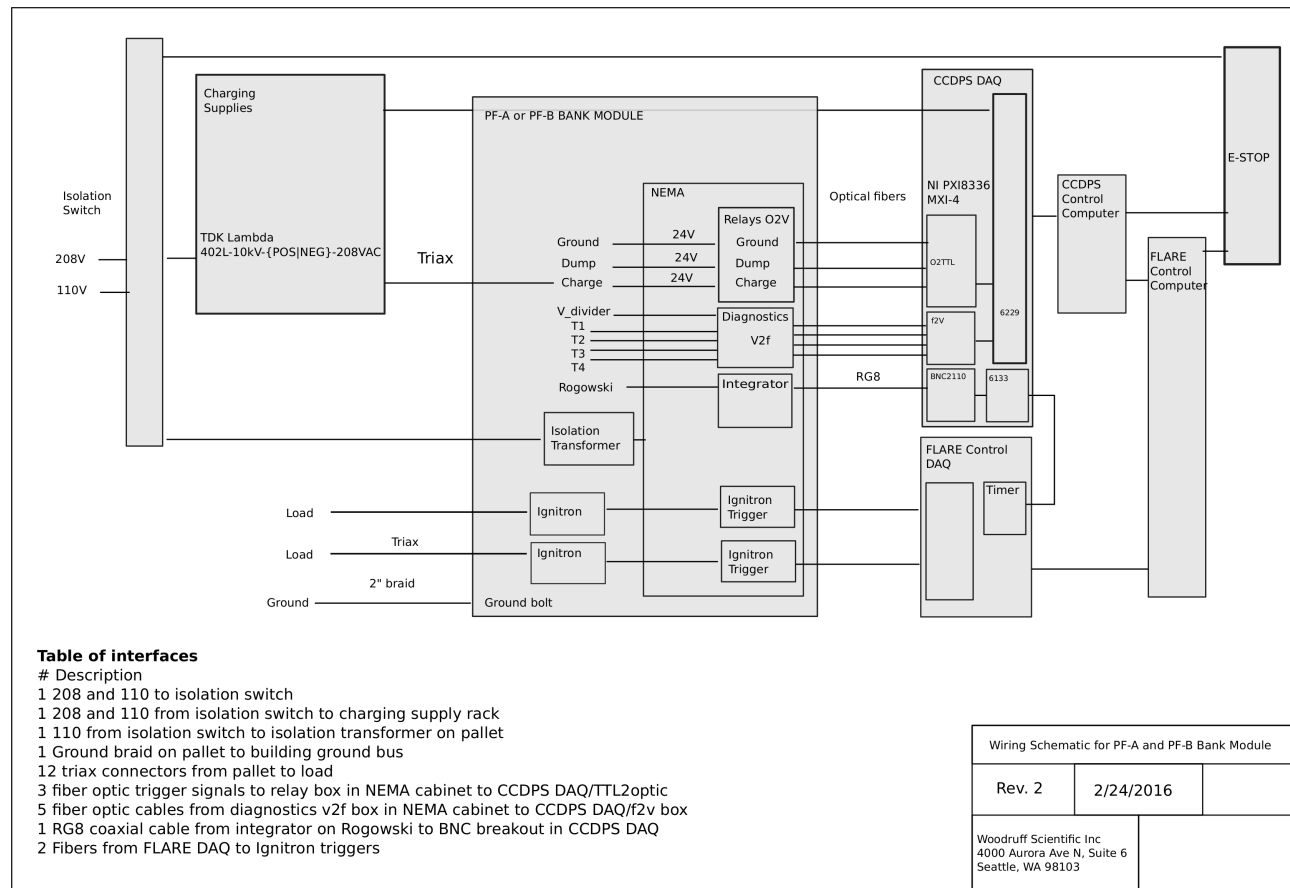
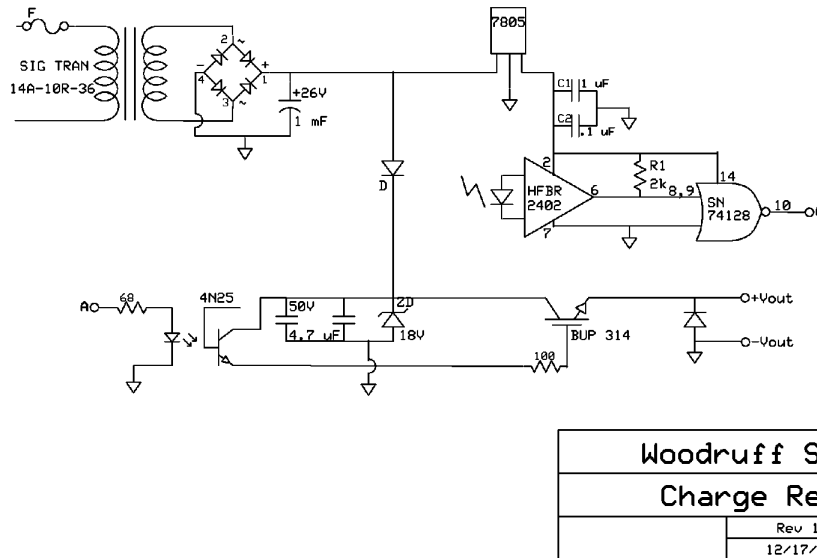

Figure 9: Connections
Figure 10: Schematic for charge, dump and ground relay control.
The connection schematic shows all of the connections that need to be made to the bank modules, power and control systems. From the left of Fig. 9, 208 and 110 power is fed to the bank enclosures via a Kirk key controlled isolation switch. This same switch can be energized by an Emergency Stop (E-stop) button located in the control room (this E-stop is digitized by both the FLARE control DAQ and the CCDPS control DAQ). If energized, the switch will drop all power to the enclosure, thereby killing power to the HV dump (normally closed) and charge (normally open) relays, and dumping bank energy into the cap dumps. The 110 and 208 power is delivered to the charging supply rack (located on it's own separate pallet), and 110 is also delivered to an isolation transformer mounted on the bank module pallet. Connections to the load are made by multiple triax cables (described above). Water is connected to the ignitron switches along 1/4" tubes from a shared chiller unit. The charge, dump ground relays are controlled by individual fiber-optic-enabled switches, with pulse signals sent from the CCDPS DAQ rack (Schematic shown in Fig. 10). Temperature sensor data are transmitted by fiber-optics from the pallet to the DAQ after conversion of voltage to frequency, then reconverting at the DAQ. A BNC connection is made from the current sensor integrator to the DAQ fast data acquisition (sampling at at least 1MHz). Timing synchronization is provided by the FLARE control DAQ. Switch firing is controlled here by the FLARE control computer and DAQ, by transmission of fire signal by fiber-optic connection. CCDPS DAQ requires 110V as input. CCDPS control computer requires 110V as input.
- Control signals needed as inputs: ESTOP and triggers (see Fig. 9)